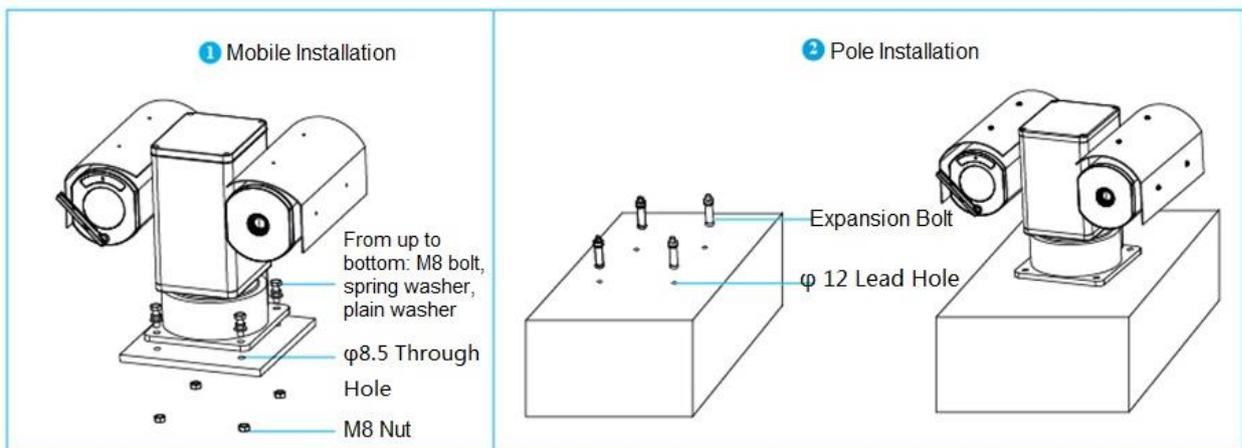

Figure 3-2
3. Lay the hybrid PTZ on the corresponding hole sites, take out M8 bolt, spring washer and flat gasket from the accessory bag, put the spring washer and flat gasket into the bolt and make them pass through the holes of PTZ and mounting platform, twist M8 nut from the bottom, use wrench to tighten the nuts in sequence after four hole sites have been well installed, which is shown in Figure 3-2.
3. Place the PTZ into the hole sites which were dug in advance, fix the bolts firmly and make sure the device is really stable, which is shown in the right of Figure 3-2